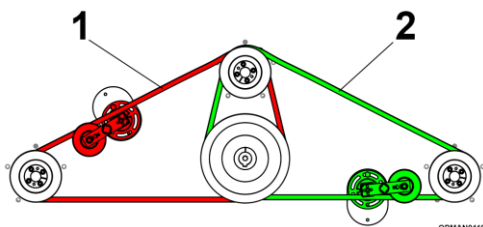

Figure 5.14
- 5.4.1.2 Each machine body features two belt circuits; see Figure 5.14.